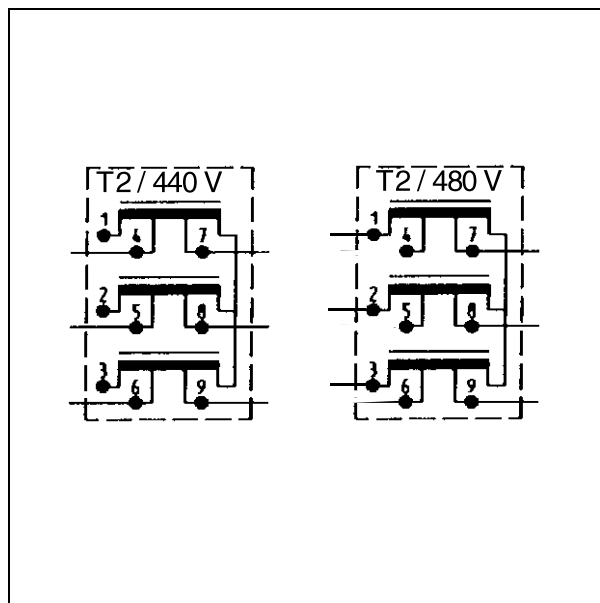

Fig. 29:
- Connect the supplied leads between the K20 power connection terminal and the T2 auto transformer corresponding to the wiring diagram X2206-10 (440 V or 480 V connection) (Fig. 29 / p. 43).